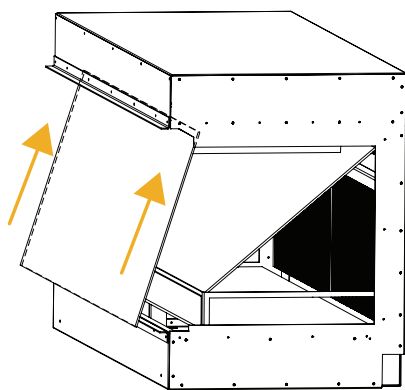
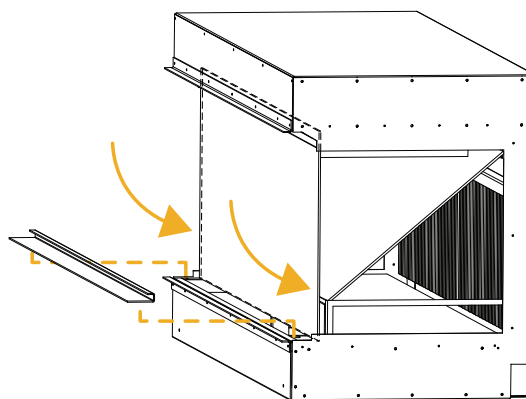

Figure.9.4 | Slide front glass in slot at top side
Figure.9.5 | Put glass straight up and place metal strip
- Place the front glass and fix it in place by placing the metal strip. See Figure 9.4 and Figure 9.5.